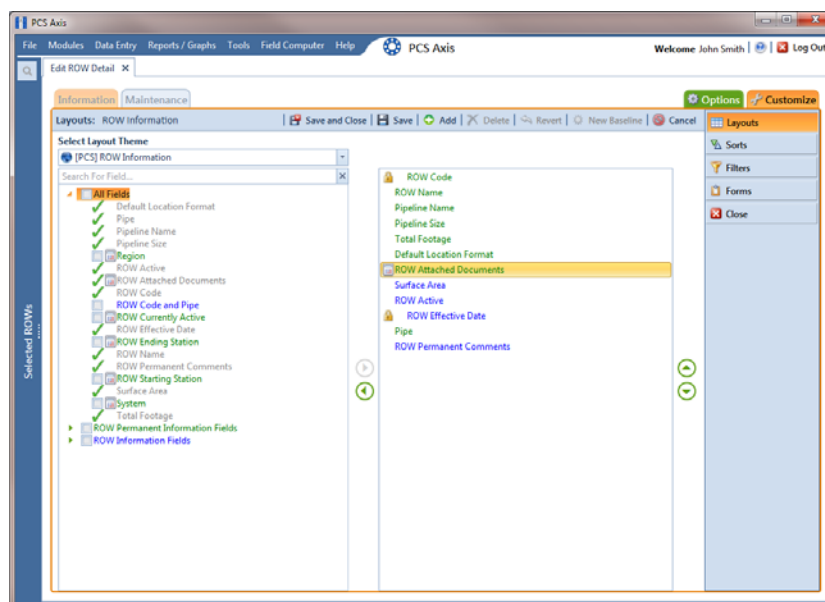

Figure 3-13. Layouts
- 5 Click the **Customize** tab  to view the *Layouts* page (Figure 3-13, page 100).
- 8 Add the field *ROW Attached Documents* in the layout theme. Double-click **ROW Attached Documents** in the left pane of the *Layouts* page to move it to the right pane. Add other fields as required. The layout theme includes all fields listed in the right pane (Figure 3-13).